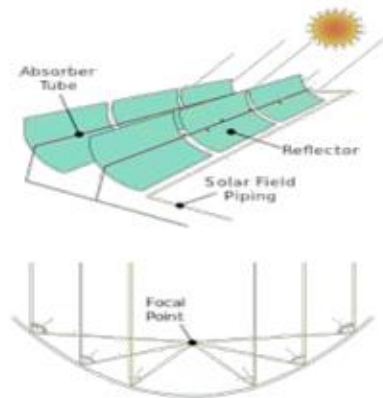

Figure 2
Photovoltaic systems (PV system) (Figure 2) use solar panels to convert sunlight into electricity. A system is made up of one or more photovoltaic (PV) panels, a DC/AC power converter (also known as an inverter), a tracking system that holds the solar panels, electrical. interconnections, and mounting for other components.